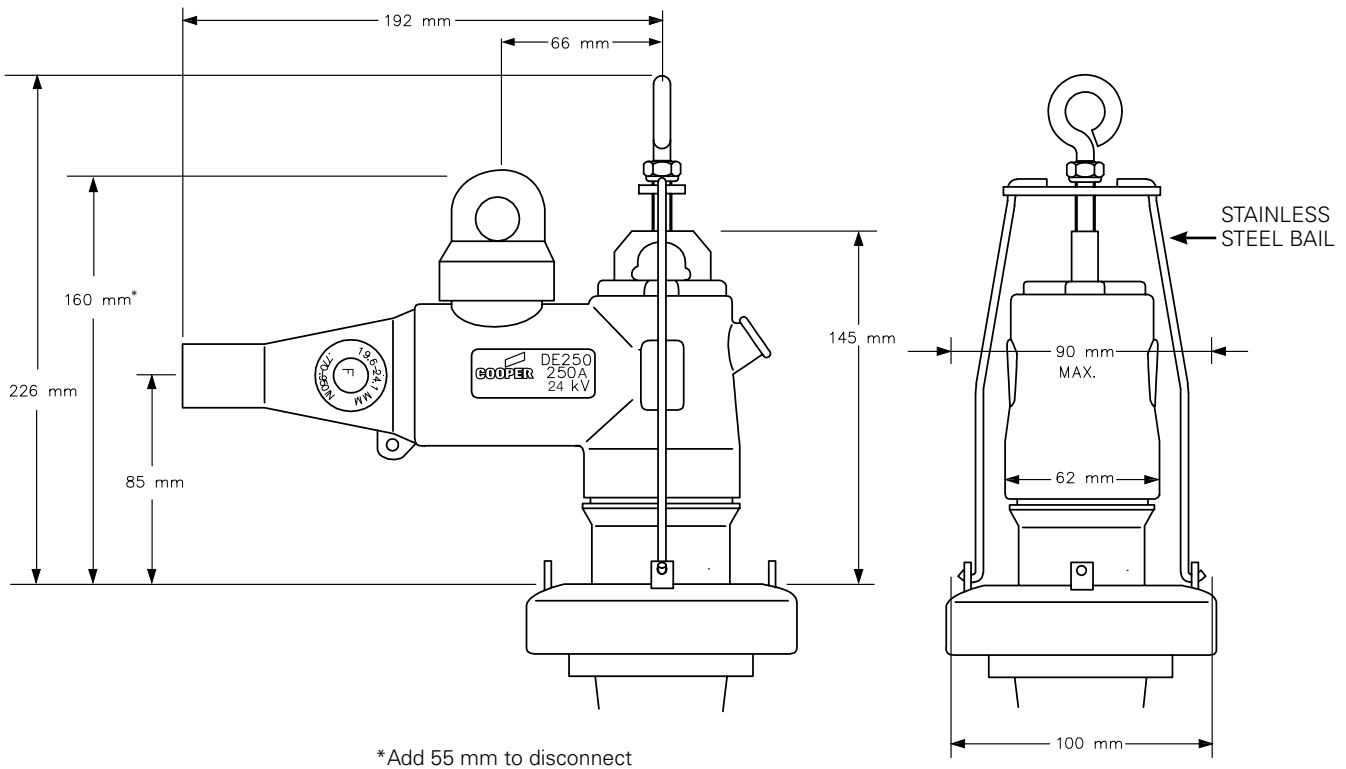

Figure 2. DE250 deadbreak elbow connector dimensional information.
12. **Stainless Steel Bail (Figure 2)**